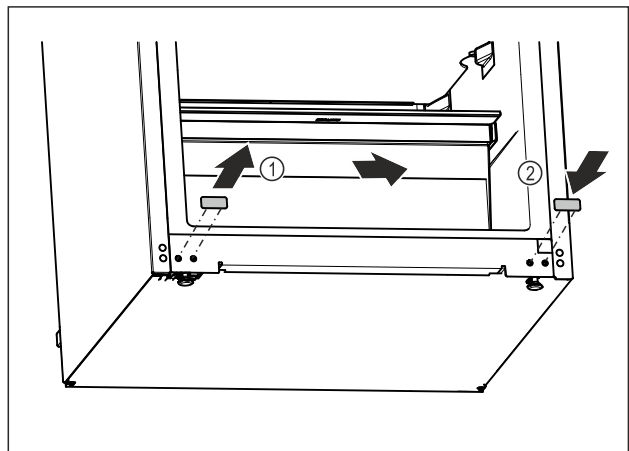

Fig. 12
- ▶ Pull out the cover plug. Fig. 12 (1)
- ▶ Insert the cover plug on the opposite side. Fig. 12 (2)